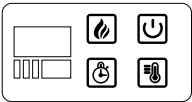

Fig.2
- 1.Using the control panel, located on the bottom right-hand of the fireplace(Fig.2).